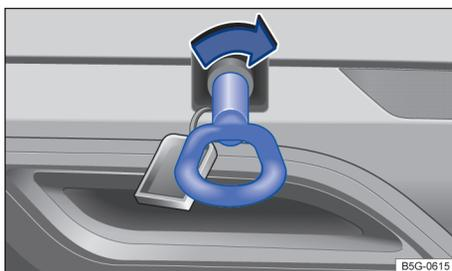

Fig. 163 In the right rear bumper: Installing the towing eye.
There is a threaded hole for the towing eye in the right rear bumper behind a cover → fig. 163.
- Screw the towing eye **clockwise** into the threaded hole as far as it will go (arrow) → fig. 163, → ⓘ.